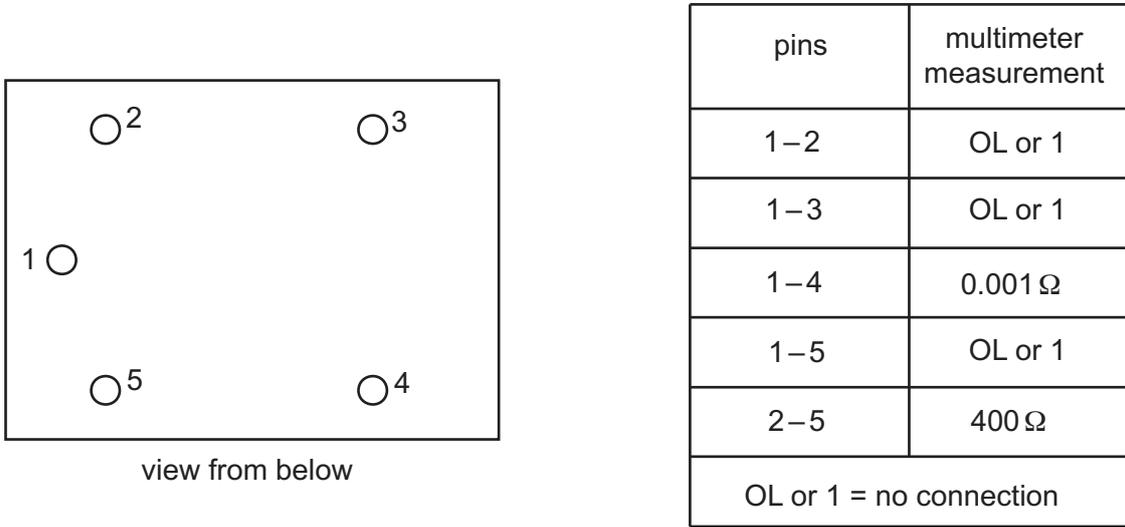

Fig. 11.4
- (v) Fig. 11.4 shows the relay outline and a table of test results. The tests were carried out using a multimeter on a resistor setting, to identify each connection on the relay. When a 12V supply is connected across pins 2 and 5 there is  $0.001\Omega$  resistance between pins 1 and 3.